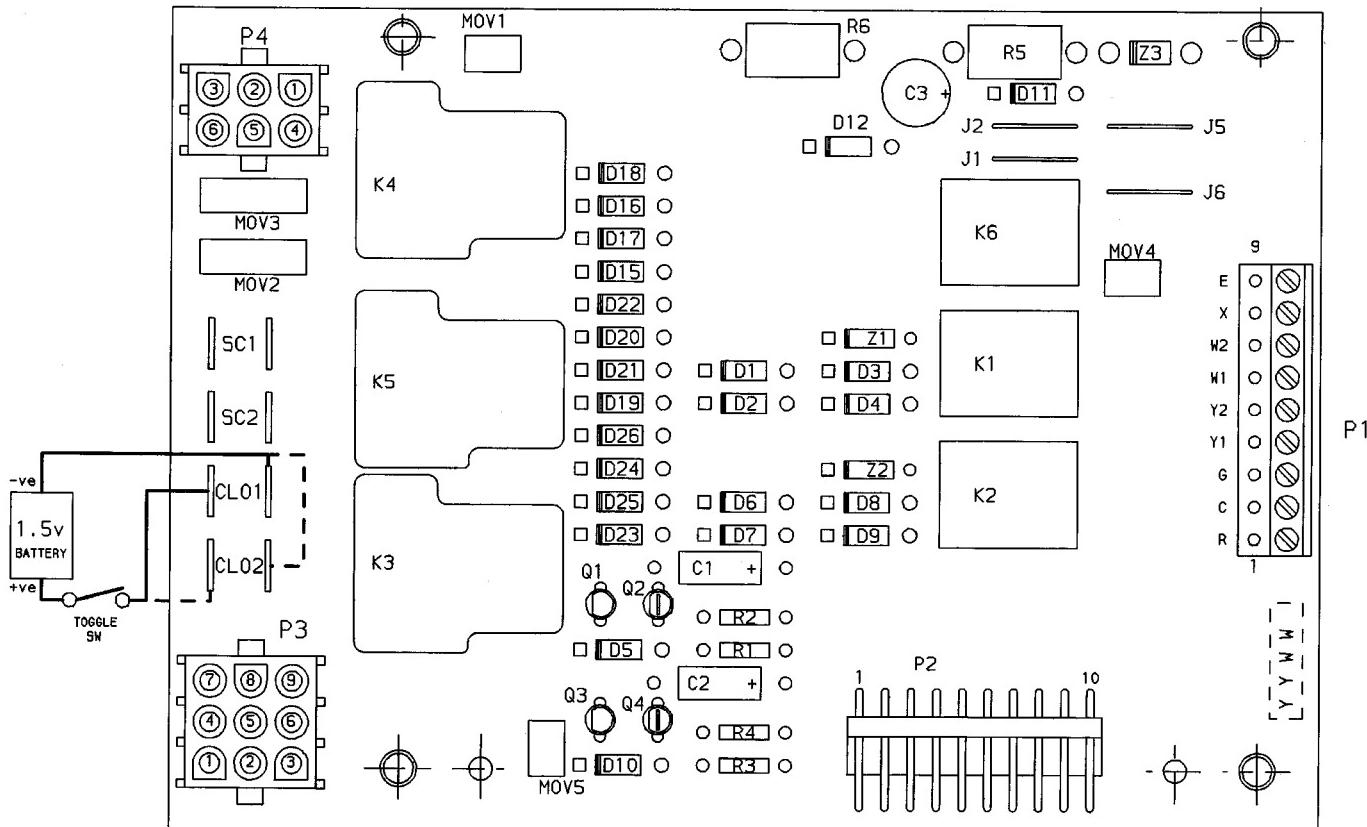

Fig. 51 — Compressor Lockout Connections
- d. Turn unit power off. Use a toggle switch to connect a fresh 1.5-v battery to the terminals marked CLO1 as shown in Fig. 51.
The negative (-Ve) pole of the battery must be connected to the inner terminal and the positive (+Ve) pole must be connected to the outer terminal as shown in Fig. 51.
- d. Turn unit power off. Connect a fresh 1.5-v battery to terminals marked CLO2 as shown in Fig. 51.